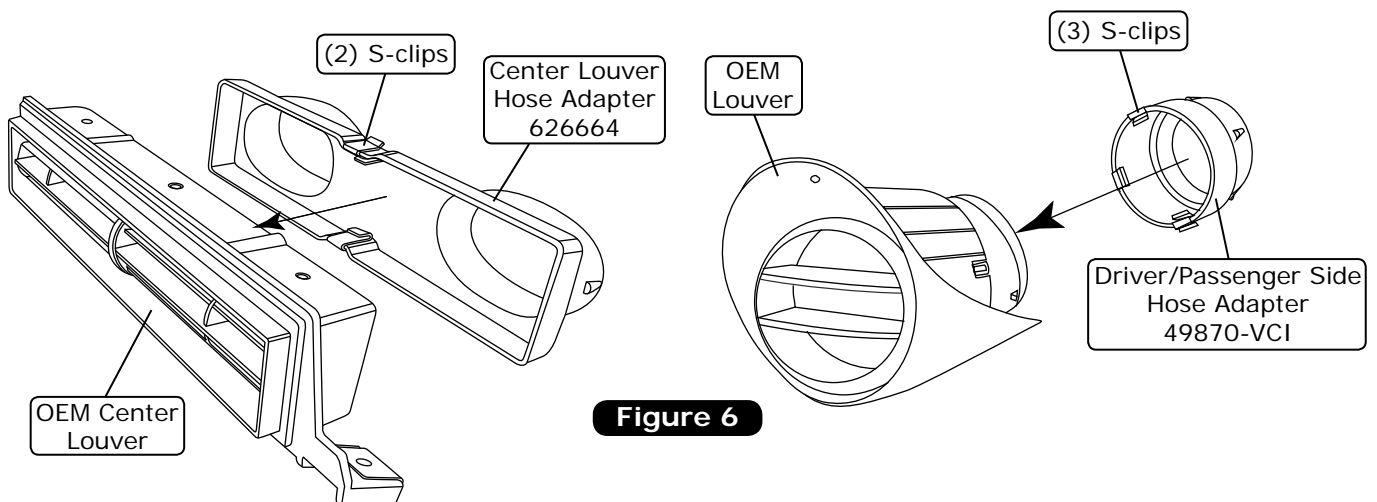

Figure 6
1. Install (2) S-clips onto the center louver hose adapter as shown in Figure 6, below.
2. Install the center louver hose adapter onto the OEM center louver assembly as shown in Figure 6, below.
3. Install (3) S-clips each onto both the driver and passenger side hose adapters (See Figure 6, below).
4. Install the driver and passenger side hose adapters onto the driver and passenger side OEM louvers (See Figure 6, below).